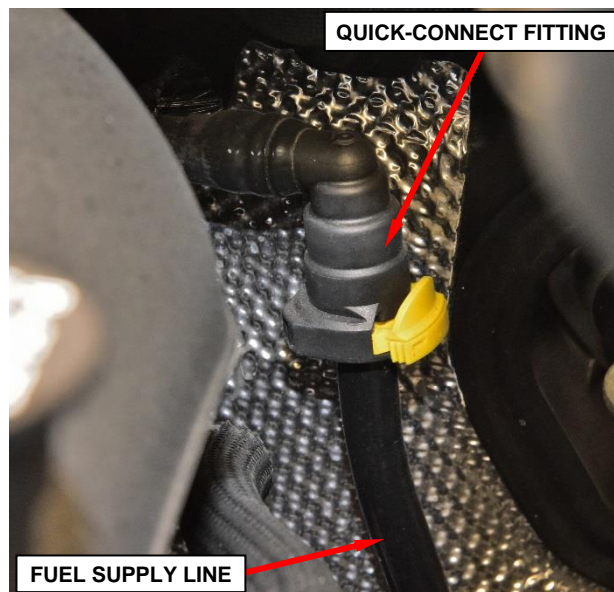

Figure 8 – Fuel Supply Jumper Quick-Connect Fitting Left Side of Engine
- Place a rag or towel below the fuel supply jumper quick-connect fitting where it connects to the fuel supply line located near the cowl behind the left side of the engine (Figure 8).
22. Connect the fuel supply jumper tube to the fuel supply line, then depress the redundant latch to secure the quick-connect fitting to the fuel supply line (Figure 8).